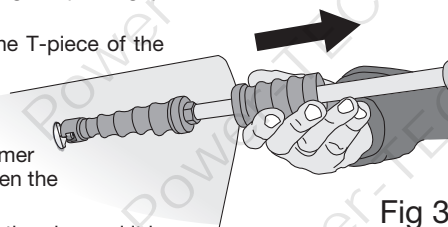

Fig 3
8. Use the slide hammer with steady, sharp blows (see Fig 3).